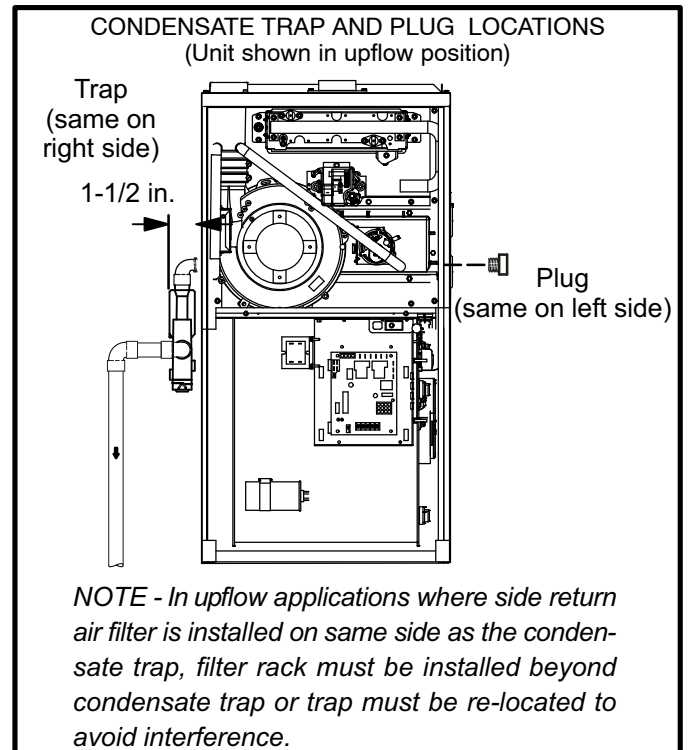
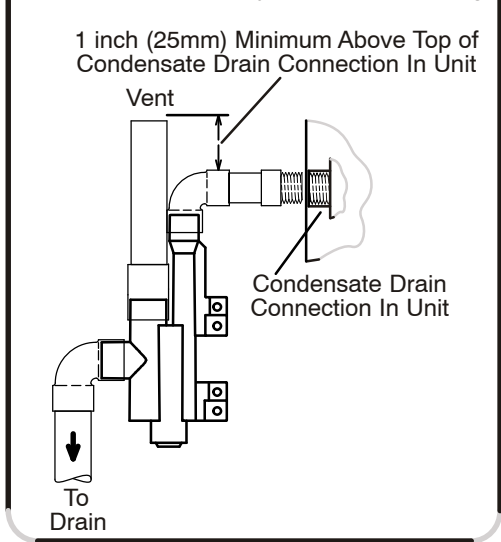

FIGURE 46
FIGURE 50
This unit is designed for either right- or left-side exit of condensate piping in upflow applications. In horizontal applications, the condensate trap must extend below the unit. An 8" service clearance is required for the condensate trap. Refer to figure 46 for condensate trap locations. Figure 50 shows trap assembly using 1/2" PVC or 3/4" PVC.
- 2 - Remove plug (figure 46) from the cold end header box at the appropriate location on the side of the unit. Install field-provided 1/2 NPT male fitting into cold end header box. Use Teflon tape or appropriate pipe dope.
- 3 - Install the cap over the clean out opening at the base of the trap. Secure with clamp. See figure 50.
- 4 - Install drain trap using appropriate PVC fittings, glue all joints. Glue the provided drain trap as shown in figure 50. Route the condensate line to an open drain. Condensate line must maintain a 1/4" downward slope from the furnace to the drain.